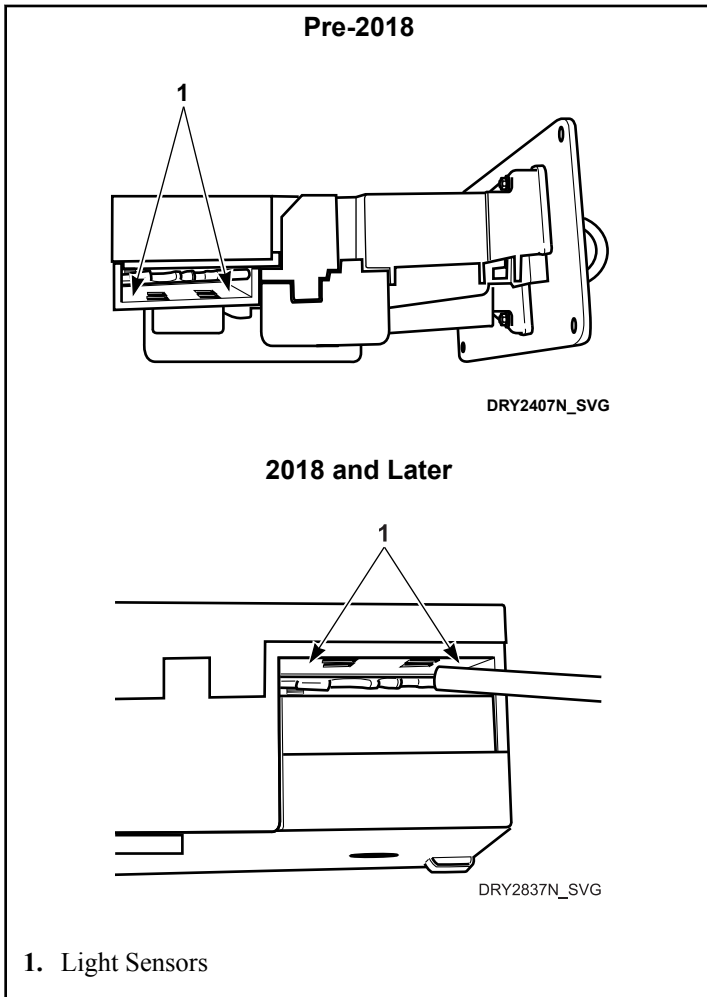

Figure 25
7. Clean light sensors with a soft brush or air spray duster. Refer to Figure 25 .